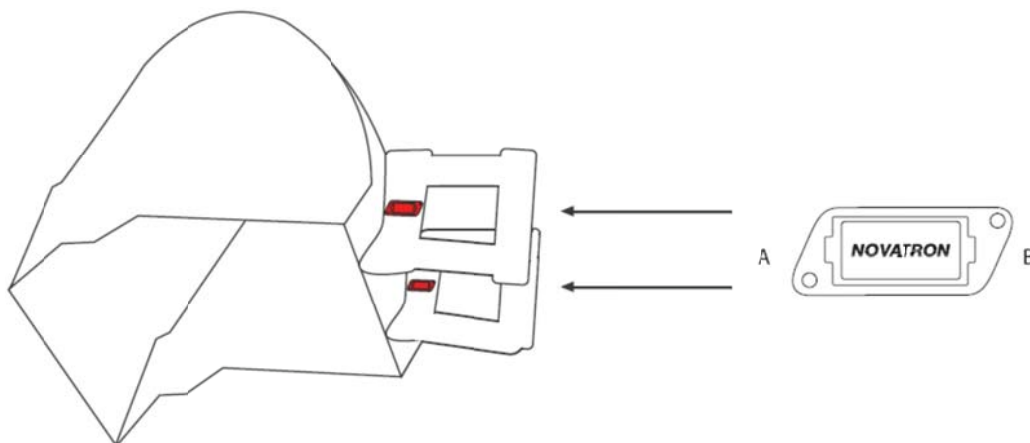

Figure 10. Installation on the inner or outer surface of the quick coupler (mounting orientation A1)
- A1: left side, measurement axis A pointing to the bucket tip (Figure 10)
When installing the sensor on the quick coupler, it is not necessary to align the sensor exactly with the line from the bucket pin to the bucket tip (Figure 10). Bucket calibration corrects the deviation from the line. However, the deviation should be as small as possible. Note that when changing the bucket, the deviation also changes.